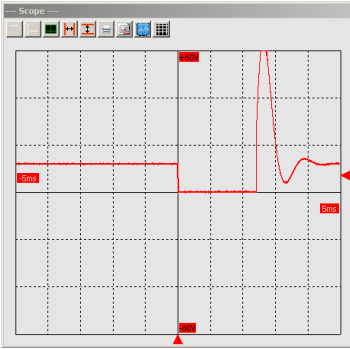
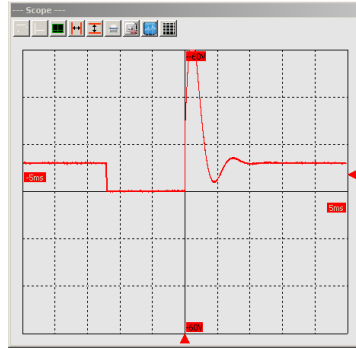

Figure 7.11
Figure 7.12
6. *Rising/falling edge detection switch* : Here you can select whether the measurement is triggered by rising or falling edge of the signal. On Figure 7.11 you can see triggering by a rising edge and on the Figure 7.12 a falling edge is used.
7. *Triggering level* : The value of signal level that must be reached on the triggering channel for measuring to start is shown here. You can change it by clicking and dragging the arrow in the color of the signal on the right side of the oscilloscope up (higher value) or down (lower value). An example can be found on the Figure 7.12.
8. *Pretrigger* : Pretrigger setting, e.g. displaying of the signal before the triggering moment (see dictionary), is done by clicking and dragging the arrow in the signal's color in the lower part of the window right or left. Position of this arrow can be seen on Figure 7.11.